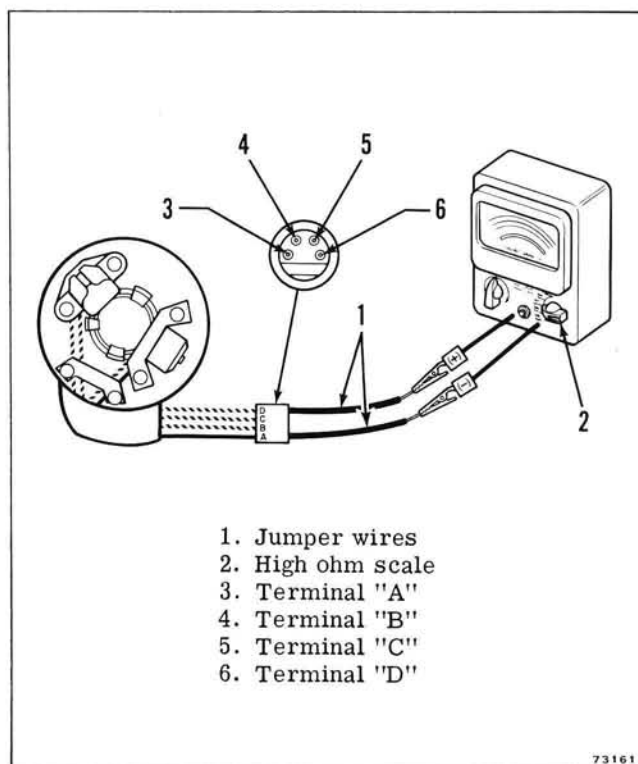

Figure 4-19. Charge Coil Resistance
a. Insert a jumper wire to terminal "A" in the armature plate end of the connector. See Figure 4-19.
b. Insert a jumper wire to terminal "D" in the armature plate end of the connector. See Figure 4-19.
c. To test the resistance, connect an ohmmeter (calibrated to high ohm scale) between the two jumper wires. The charge coil resistance is good if the needle indicates 575 ± 75 ohms. See Figure 4-19. For electric starting models, resistance should be 475 ± 75 ohms. See Figure 4-19.